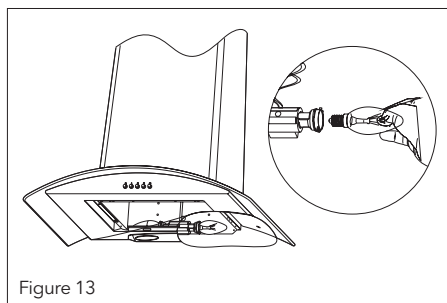

Figure 13
- Remove the holder on the LED bulb. Put the new LED bulb on the holder housing of the LED bulb you removed as shown in **Figure 13**.